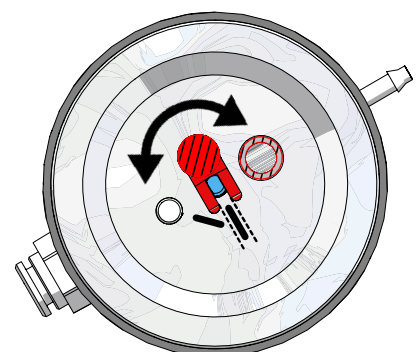

Fig. 13
- ⇒ The dosing nozzle must be adjusted with blasting tanks of 25 - 70 µm (Fig. 13)!